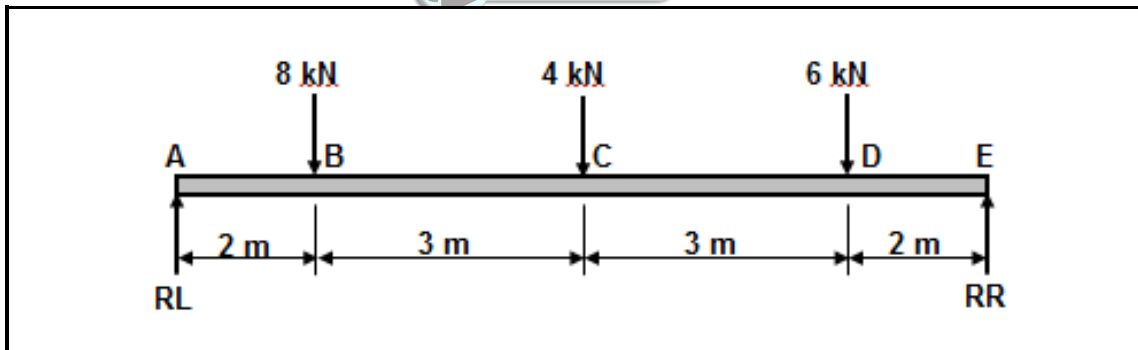

FIGURE 7.2
7.2 FIGURE 7.2 below shows a simply supported beam that is subjected to THREE point loads.